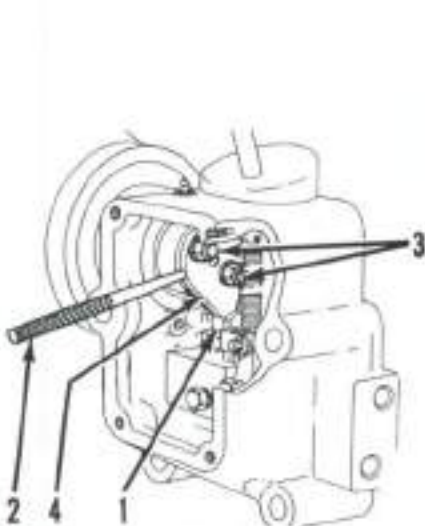
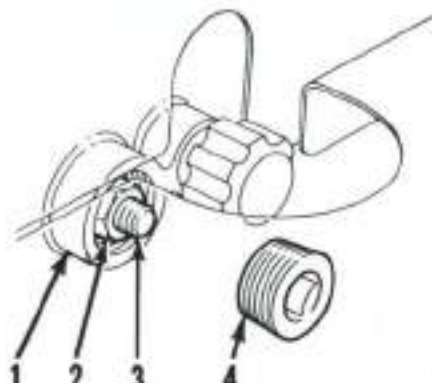

Fig. 243—View showing adjustment of rockshaft cam. Refer to paragraph 312.
Fig. 245—View showing location of locknut used to adjust connecting link on low profile models.
in SELECT position, then select POSITION CONTROL on selector dial. Move linkage control lever to RAISE position. Lift the lower links by hand to fully raised position, then engage lift latch if so equipped. If not equipped with lift latch, lower the linkage 40 mm (1½ inches), measured at outer end of lower link, and support in this position with a suitable stand. Remove cover from rear of right-hand rockshaft bracket. Loosen the two nuts (3—Fig. 243), insert a punch (2) into hole in rockshaft cam (4) and turn cam until roller (1) is seated in notch. Tighten the two nuts to secure adjustment.
313. CONNECTING LINK ADJUSTMENT. Move selector dial to POSITION control setting. Remove cover (4—Fig. 244) from control housing on tractors equipped with cab or platform. (Control housing (1) is located on right-hand side of rear axle housing.) On models without cab or platform, remove plug (4—Fig. 245) from control housing cover. On all models, turn nut (2—Fig. 244 or 245) counterclockwise until it is even with end of connecting link (3). Remove cover from rear of right-hand rockshaft bracket. Move linkage control lever rearward to SELECT position and hold in this position. Raise lift arms by hand until roller (1—Fig. 243) is seated in notch in cam (4). Support lift arms in this position with a suitable stand. Place a 0.05 mm (0.002 inch) feeler gage between rocker lever (2—Fig. 246) and push rod (1). Then turn connecting link locknut (2—Fig. 244 or 245) clockwise until feeler gage is snug but can be moved between rocker lever and push rod.